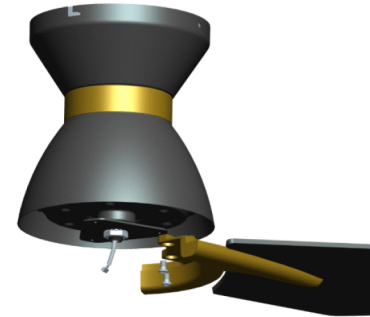

Fig. 7.1
7.1 Fix the blade bracket to the motor housing with the blade bracket from the hardware pack screws as shown in Fig. 7.1.